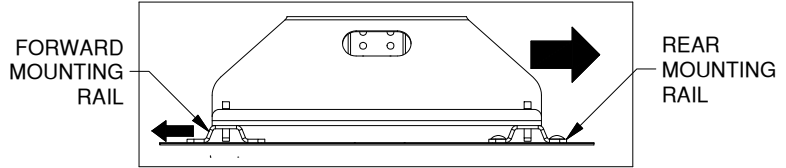

Figure E4: Side view of RV base and mounting rails.
3. **IMPORTANT:** Before drilling forward mounting holes pull the RV base towards the rear of the truck and push the forward rail towards the cab of the truck to correctly space the mounting rails, see Figure E4.